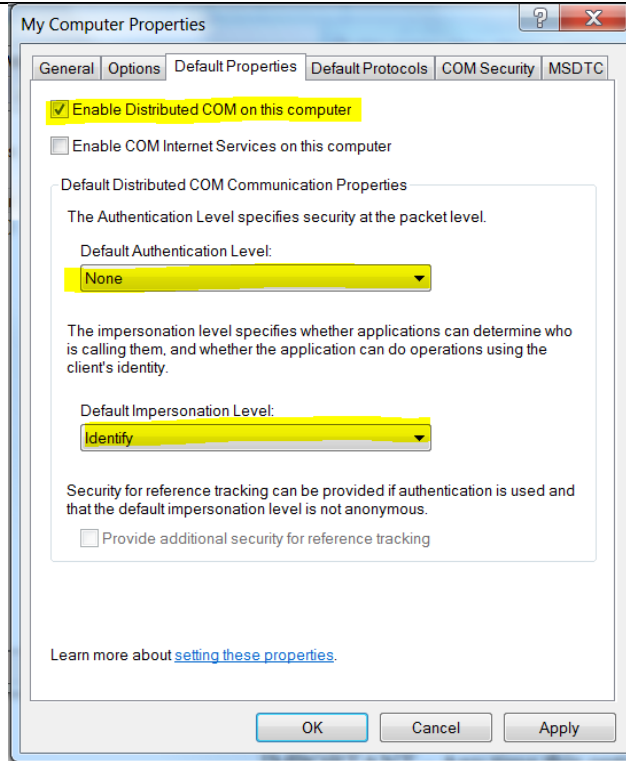

Figure 4.3
Step 4: On the **My Computer Properties** window, select the **Default Properties** tab. (see Figure 4.3)